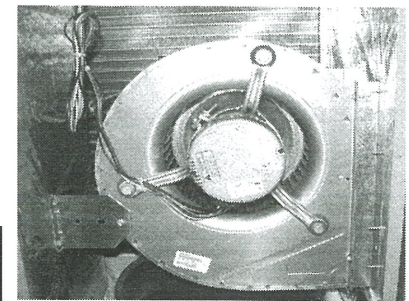

FIG. 2- Blower motor installed
6. Reinstall blower motor to unit (see fig. 2).